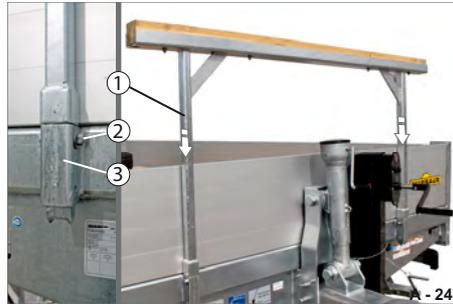

Fig. 177 Support frame secured on the chassis
- ▶ If necessary, remove the bolt connection from the post pockets (Fig. 177/3).
- ▶ Insert the support frame (Fig. 177/1) simultaneously into the post pockets on the chassis.
- ▶ Secure the support frame with the bolt connection (Fig. 177/2).